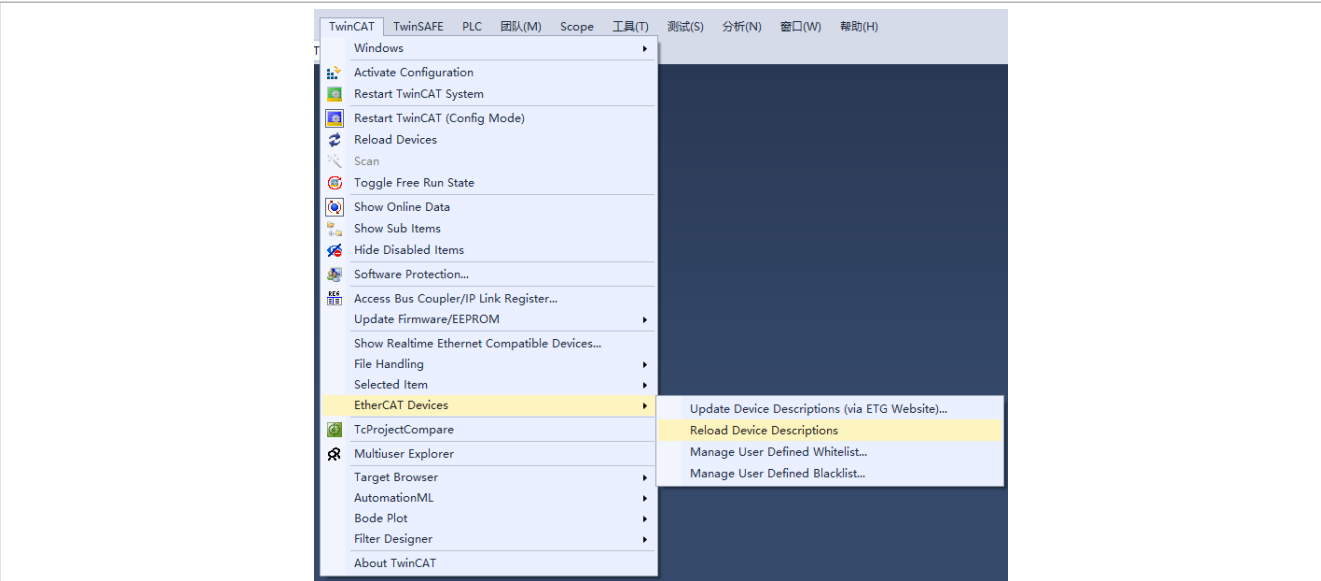

Figure 28. Reloading Device Descriptions
6. Click **Reload Device Descriptions** to update the XML file, as shown in Figure 28.